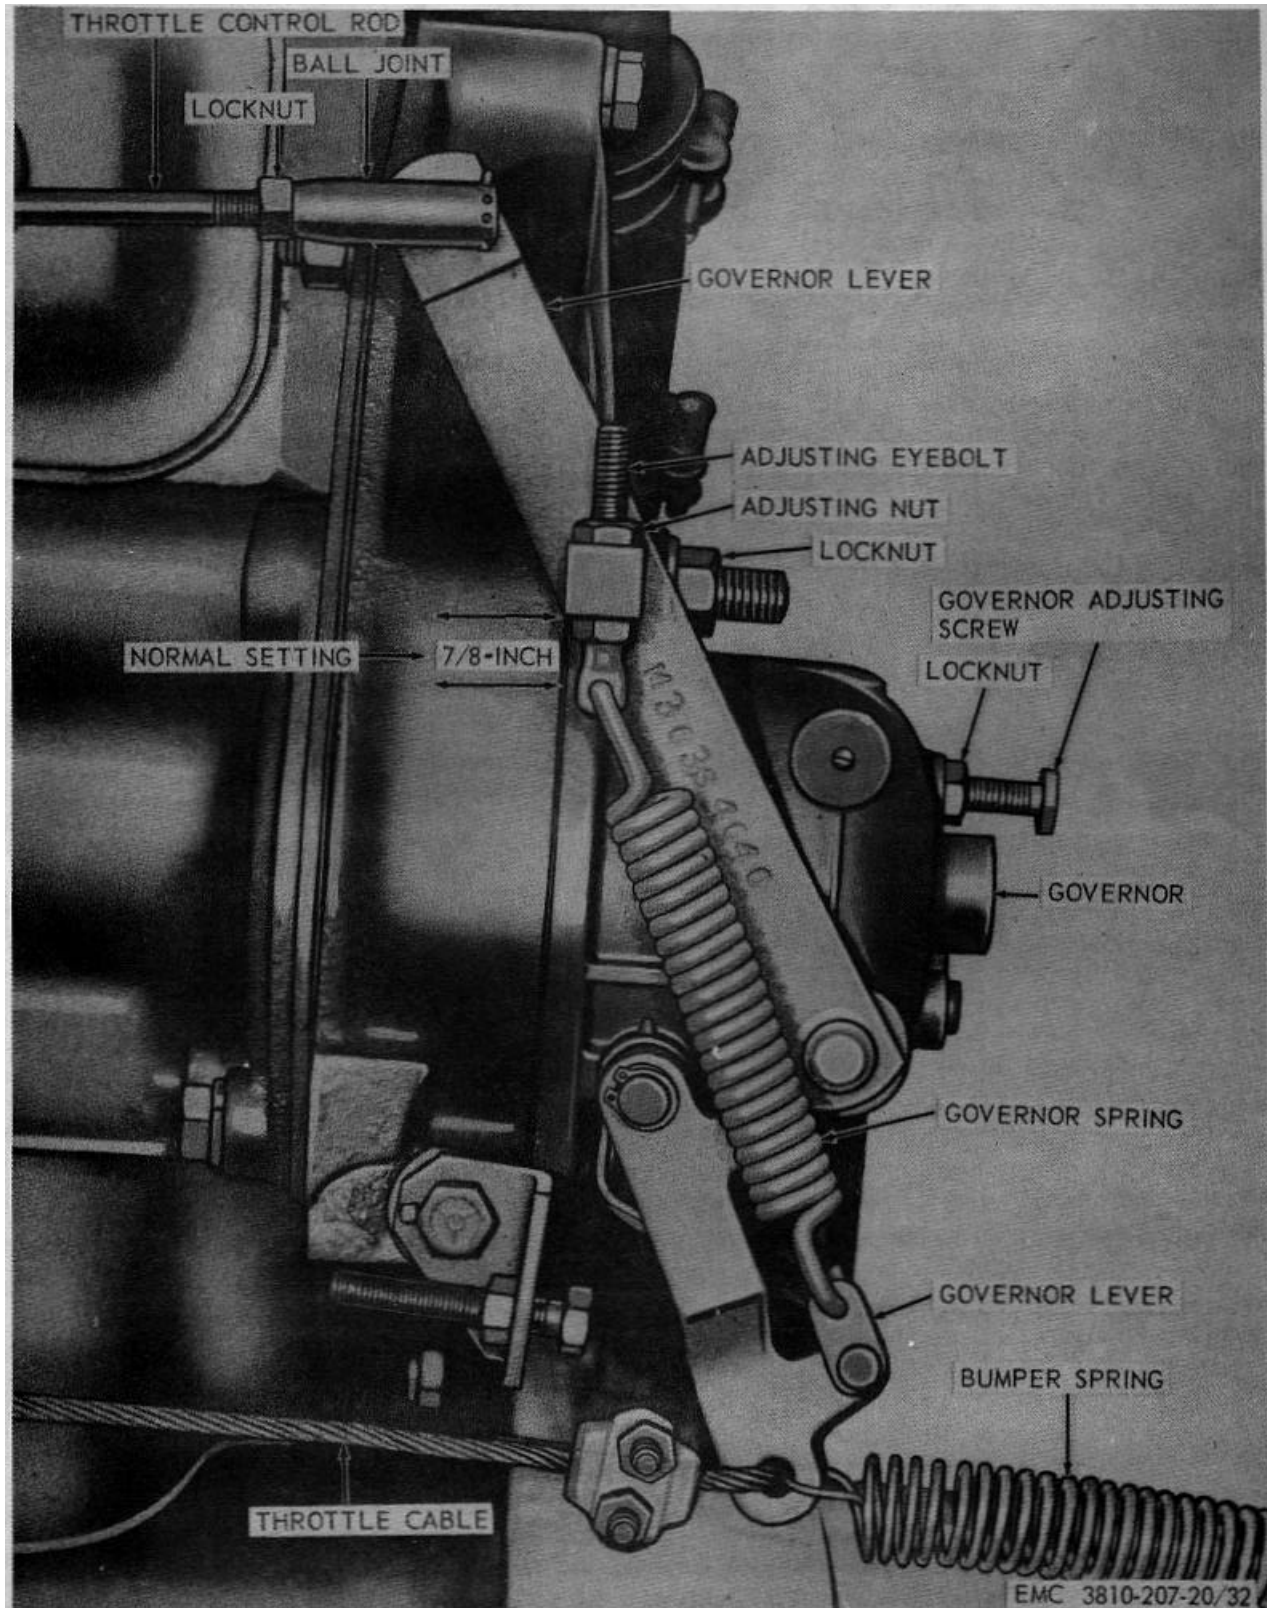

Figure 32. Engine speed governor and control rod adjustment.
- (1) Start the engine and allow it to operate until it reaches normal operating temperature (TM 5-3810-207-10).
- (2) Loosen locknut on governor adjusting screw (fig. 32) and back out on the adjusting screw several turns to make sure it does not affect the engine speed.
- (3) Use a tachometer and check the engine speed with the engine pulling its rated load. If the desired engine speed cannot be obtained, increase or decrease the tension of the governor spring by loosening the adjusting nut and lowering or raising the adjusting eyebolt to obtain desired speed range.
- (4) Secure the adjusting eyebolt in place with the locknut.
- (5) If the governor surges at no-load speed after spring tension is adjusted,